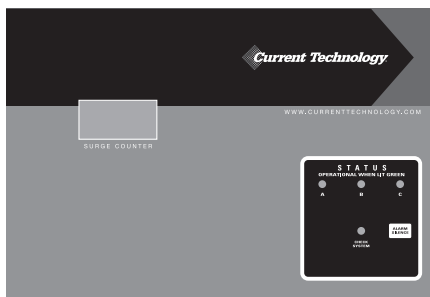

Figure 13
► If your TG3 has the M2 Option (see Figure 13).